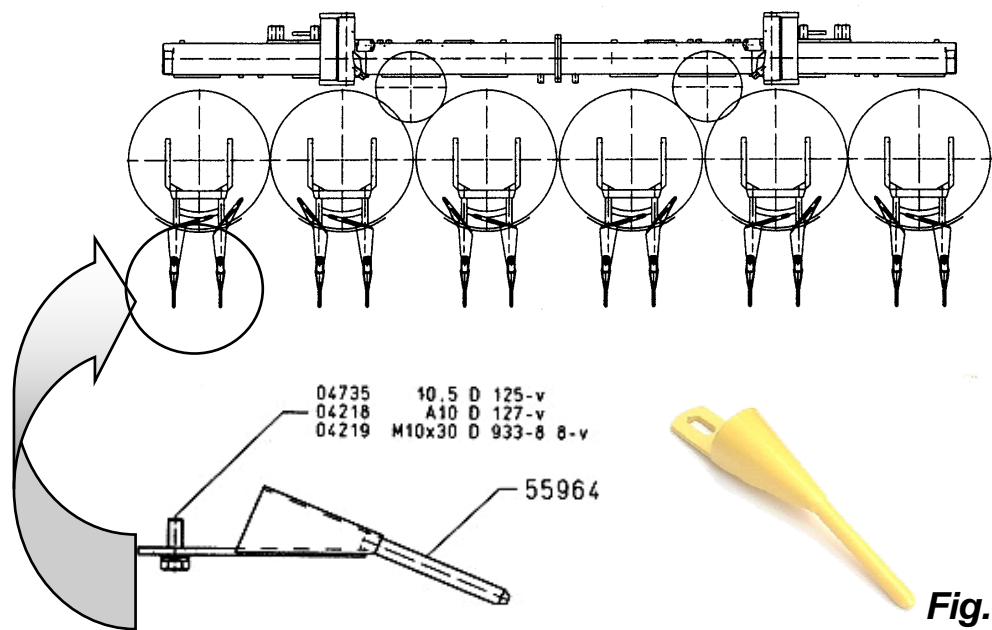

Fig. 1
- Mount rigid stalk lifter (fig. 1, optional equipment); kit containing 4 lifters